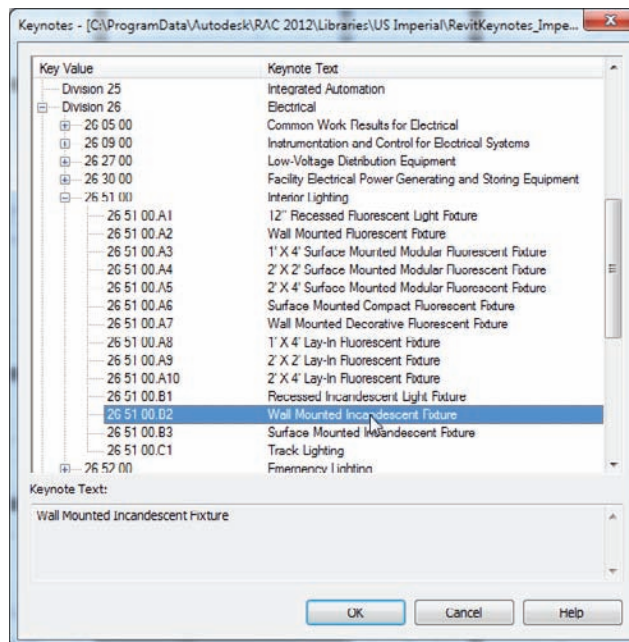

FIGURE 11.96 Selecting the proper keynote value for the sconce
After you pick the third point, Revit will display the Keynotes menu shown in Figure 11.96. Follow these steps to place the keynote value into the sconce family:
3. Go to group 26 51 00.B2 Wall Mounted Incandescent Fixture, as shown in Figure 11.96.